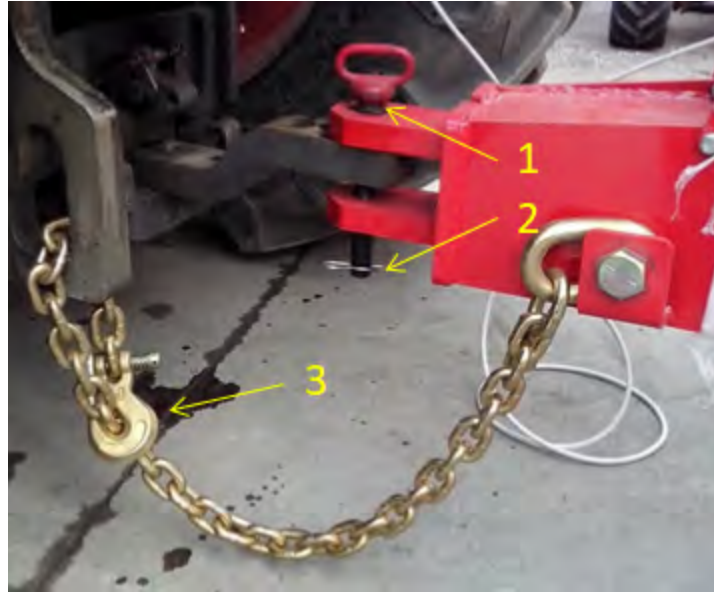

Figure 6 — Hitching to the Tractor
5. Remove the cotter pin from the hitch pin, remove the hitch pin, and remove the safety chain (Figure 6).